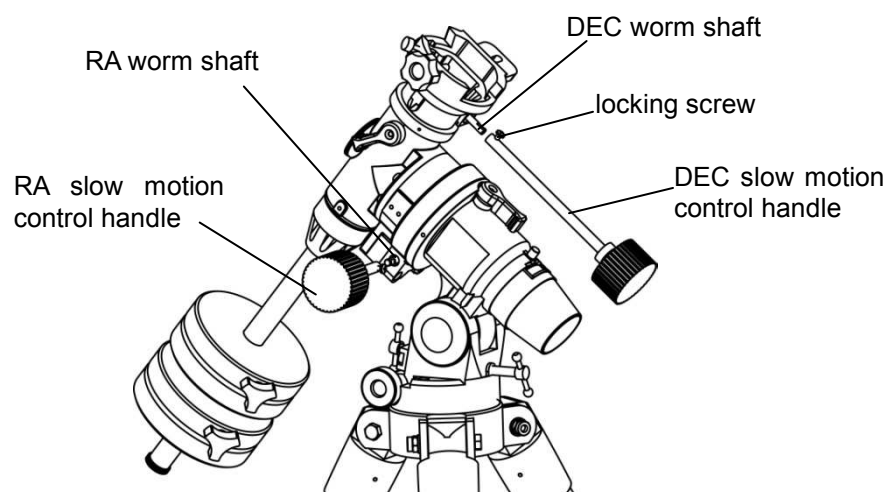

Fig 7
1.5 Installing slow-motion control handles (EQM-35 manual version only) (fig 7)